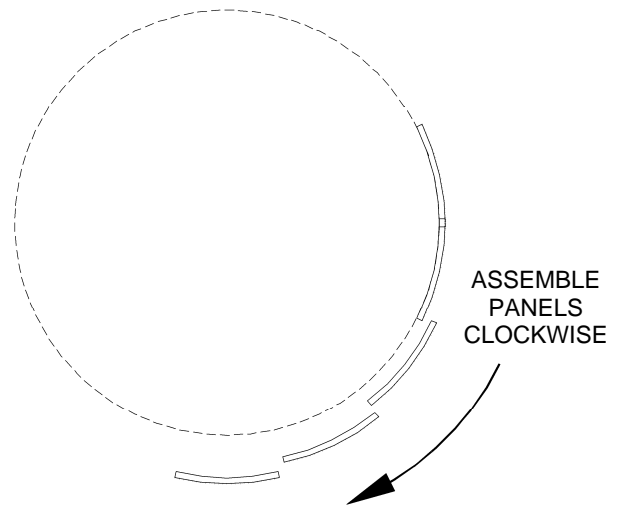

FIGURE 3
Panel Layout (Figure 3)
- Panels must be assembled in a clockwise manor. (Figure 3)